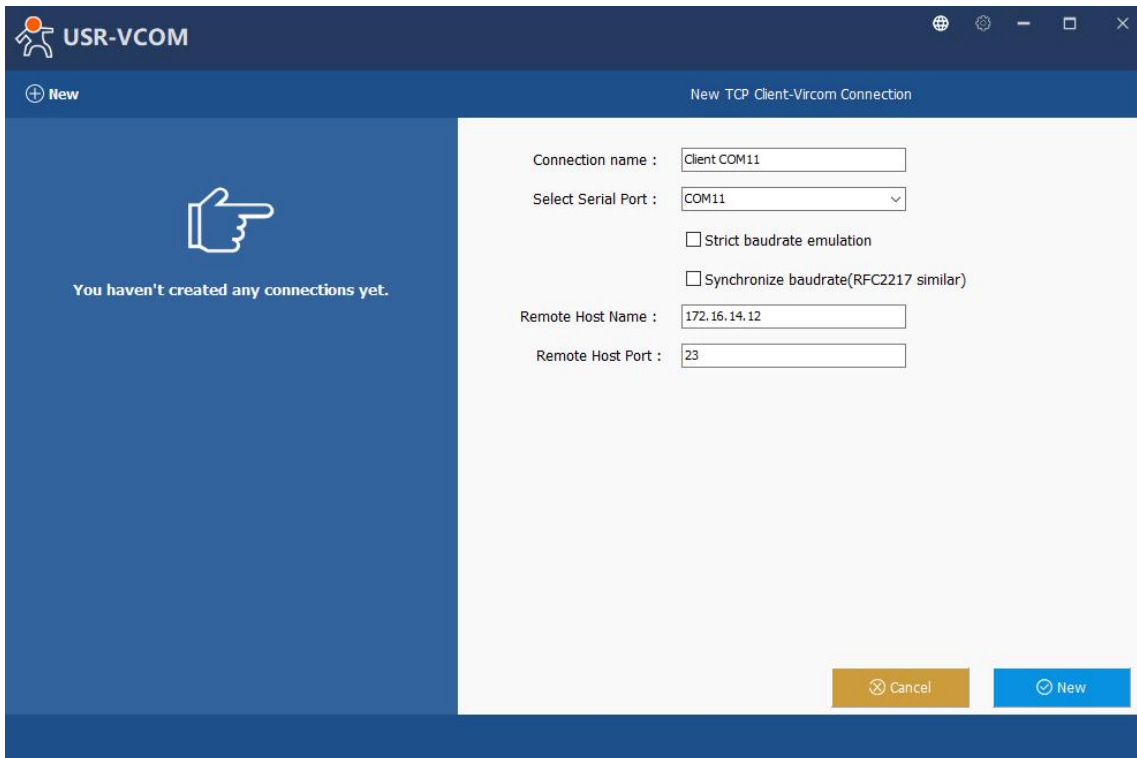

Fig. 72 Virtual COM port mapping
3. After selecting the virtual COM ports, please enter the IP Address of the serial device server with the specified Port Number. The Port Number here is the Local Listening Port for the serial device server which is specified in the Local Port field of Fig.72.